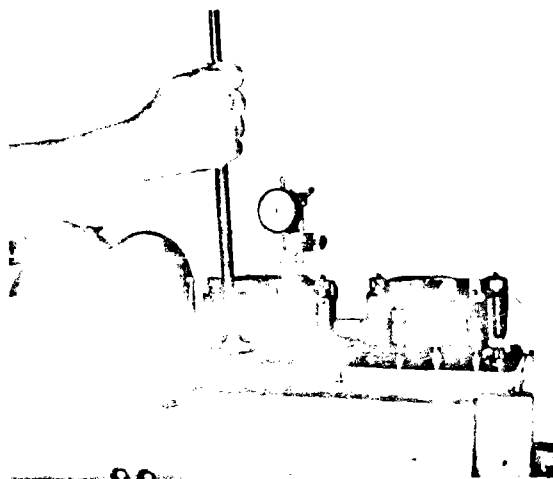

Fig. 2-54, (K114104). Actuating rocker lever
5. Using 3375009 Rocker Lever Actuator Assembly and Support Plate, bottom the injector plunger, check the zero (0) setting, Fig. 2-54. Allow the plunger to rise slowly; the indicator must show the plunger travel to be within the range specified in Table 2-18.